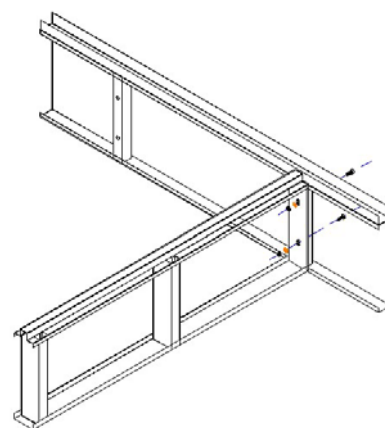

Fig. 3.4
1. Put the metal board(front,back,sides)and middle bracket in the right place,and connect them with bolt M8*20 according to the demand of the installation chart.then screw down.Shown in Fig.3.4.